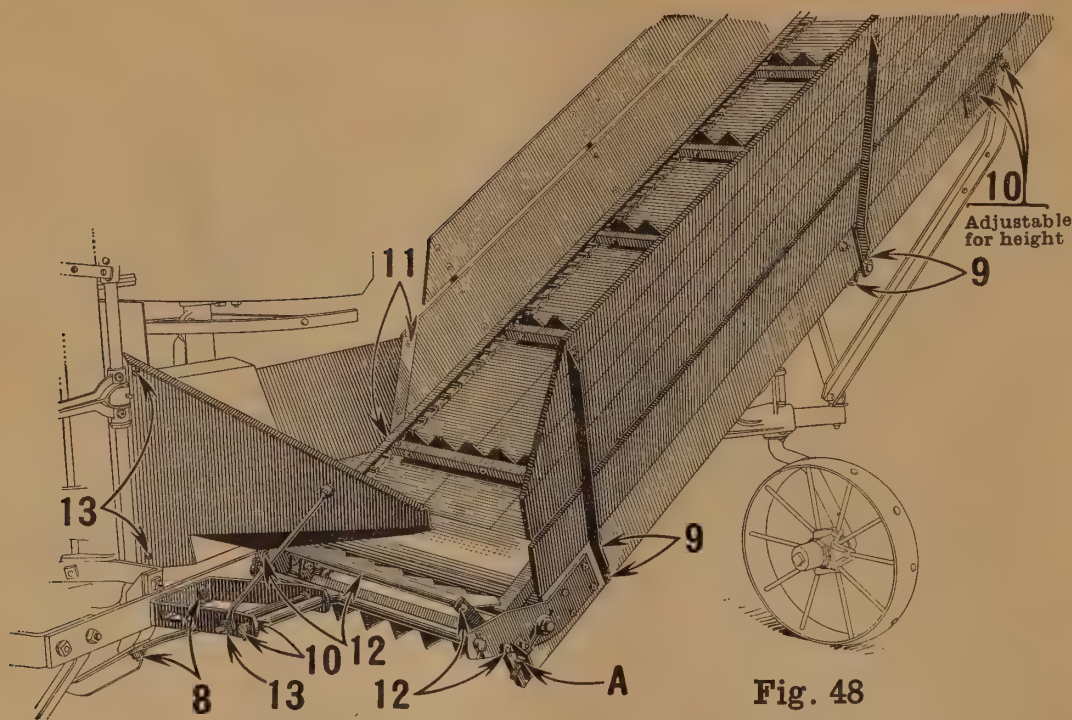

Fig. 48
8. (Fig. 48.) Bolt swivel "U" Support to rear of Main Frame Sill—brace bolts to **underside** of R. H. Gatherer Angle.
9. (Fig. 48.) Bolt Elevator Sideboards to Elevator Bottom—**high** sideboard to the **rear**. Attach conveyor chain idlers (4) to sills at Sideboard Middle Supporting Angles, front and rear—brackets go to outside of sills and sprockets go to **underside** of conveyor chain.
10. (Fig. 48.) Attach Elevator: Remove bolts in Elevator bottom sills for supporting angles, also cotters in **"T"** swivel. Lift elevator into position by inserting **"T"** swivel into **"U"** support at rear of Main Frame and secure with cotters, **at same time** slipping Elevator Drive Shaft into drive sleeve and bolting supporting angles to elevator bottom sills with double nuts. Four sets of holes are provided in elevator bottom sills and supporting angles to set elevator at the height desired.
11. (Fig. 48.) Insert lower edge of sideboard extension shield **between** elevator front sill and steel support plate, and bolt shield to sideboard—Front end of shield goes **outside** of Rear Throat Side.
12. (Fig. 48.) Bolt front support with clip for hinged shield to **inside** of elevator support plate (shield rest goes to the rear); then hook shield rod in front support and hook rear support over rear end of rod, and bolt to **inside** of elevator rear support plate.
13. (Fig. 48.) Bolt elevator end shield to **outside** (L. H.) of binder deck—brace bolts to **rear** of **"T"** swivel, **"U"** support.
17. (Fig. 48.) Adjust elevator conveyor chain at **"A"**. Adjust both sides evenly—see Instruction 5, page 47.